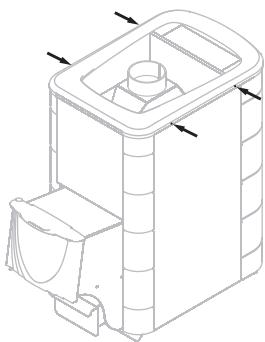

Figure 15. Drilling screws for dismantling of the frame of the convector of the stove
- Remove the convector frame by unscrewing 4 self-driving screws (Figure 15)